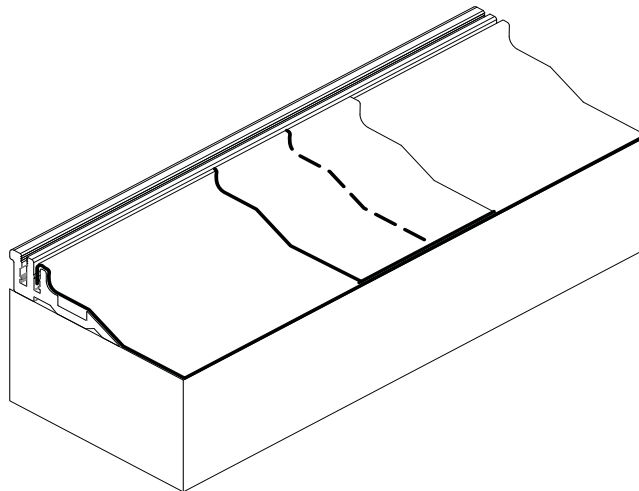

Figure 13A
50. At butt ends of provided SR system counterflashing, apply 3" wide seam protection top to bottom Fig 13A.